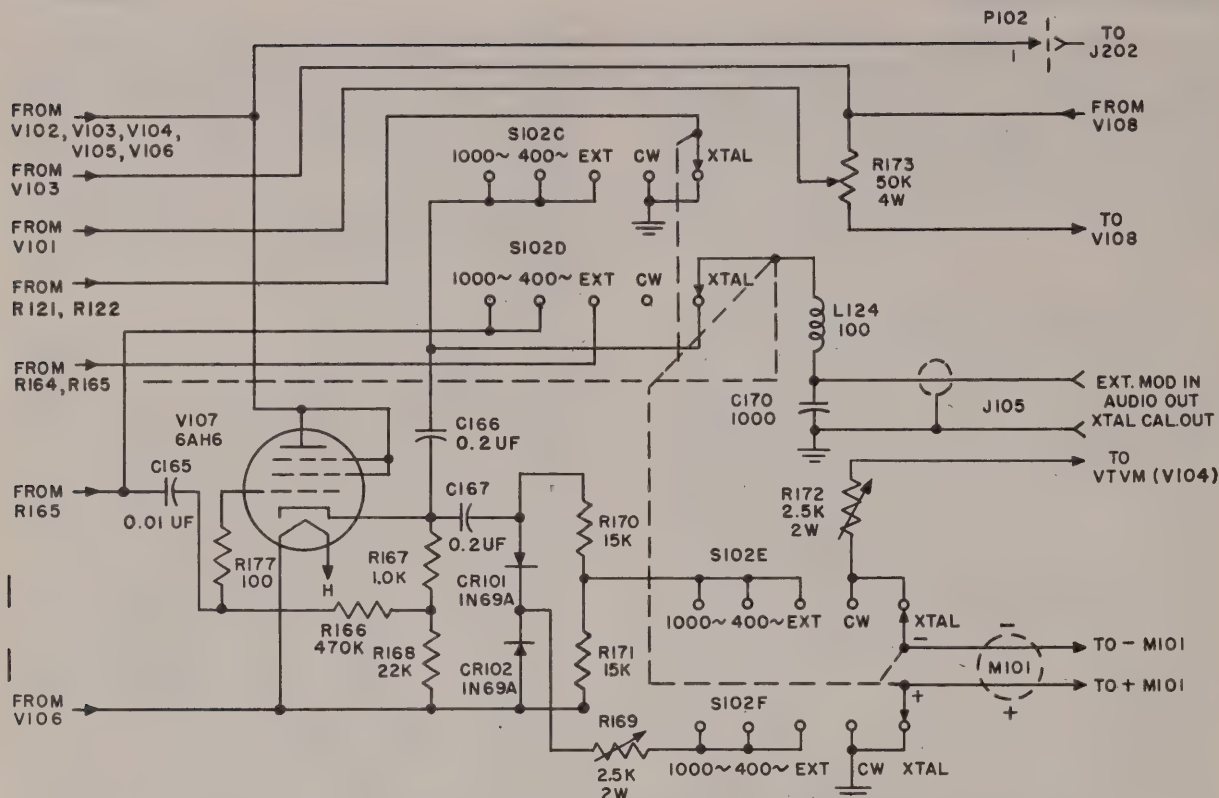

Figure 2-6. Simplified Schematic Diagram of the Modulation Cathode Follower and Crystal Rectifier
c. CATHODE FOLLOWER STAGE (See figure 2-6).
d. MODULATION METERING (See figure 2-6).
b. SWITCHING (See figure 2-6).